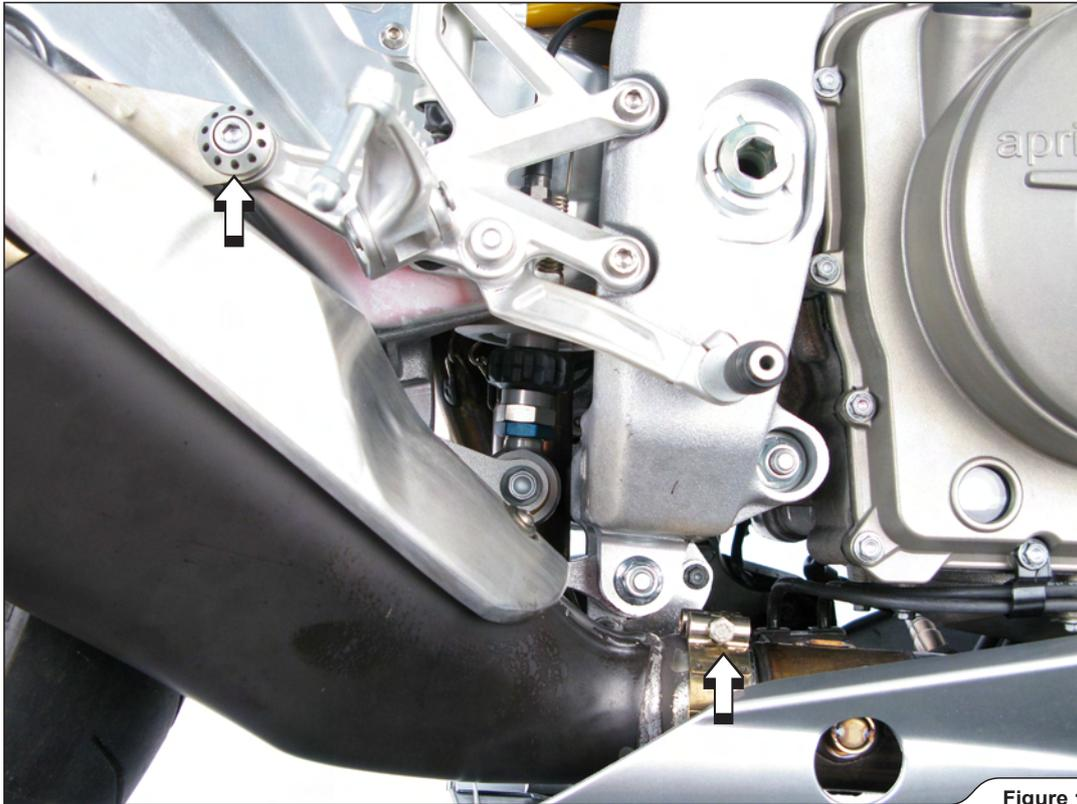

Figure 1
2. Unscrew the marked bolts from the muffler hanging bracket, the metal clamp at the muffler link pipe-collector connection and lower muffler bracket (Figure 1, 2). Remove the muffler.